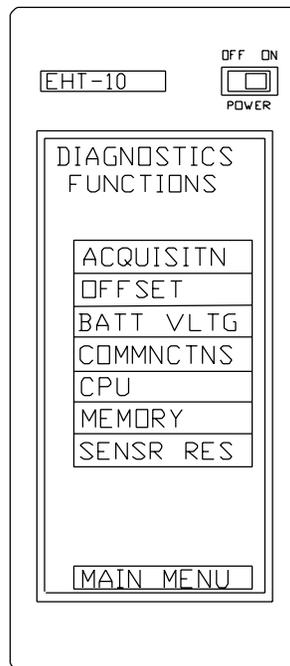

Figure 16 Diagnostics Functions Menu
- * Press **Diagnostics** on the FST Main menu. The hand terminal displays the Diagnostics Functions menu, as shown in figure 16.
- * Press **Diagnosts** on the FST Main menu. The hand terminal displays the Diagnostics Functions menu, as shown in figure 16, above.
- * Press **Diagnostics** on the FST Main menu. The hand terminal displays the Diagnostics Functions menu, as shown in figure 16, above.